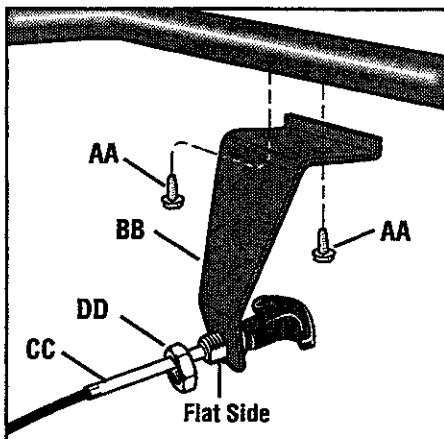
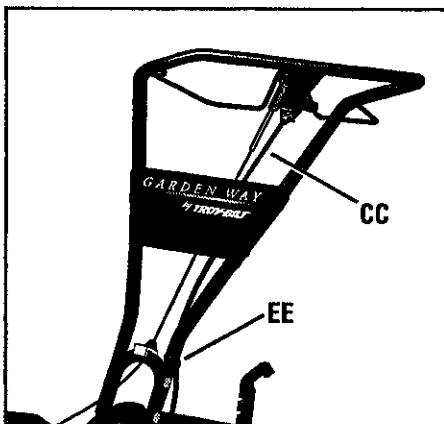

Fig. 2-8: Install reverse cable mounting bracket and the reverse clutch cable.
Fig. 2-9: Route reverse clutch cable (CC) as shown. Attach to handlebar with cable tie (EE).
1	Bracket, reverse clutch cable (see BB, Fig. 2-8, page 9).
1. Remove the two pre-installed self-tapping screws (AA, Fig. 2-8) from the handlebars.
2. Position the reverse cable mounting bracket (BB, Fig. 2-8) as shown and reinstall the two self-tapping screws.
3. Unwrap the reverse clutch cable (cable with a knob and a large nut attached to it) from around its shipping position and route the cable (CC, Fig. 2-8 and Fig. 2-9) up to the cable bracket (BB, Fig. 2-8). Be sure that the cable is routed beneath the Forward Clutch Bail.
4. Insert the cable through the slot in the cable bracket and position the threaded assembly as shown in Fig. 2-8. Make sure that the flat side of the threaded assembly is aligned with the flat side of the mounting hole. Slide the large hex nut (DD) up the cable and tighten it securely.
5. Use a cable tie (EE, Fig. 2-9) to fasten the reverse clutch cable to the left side handlebar.